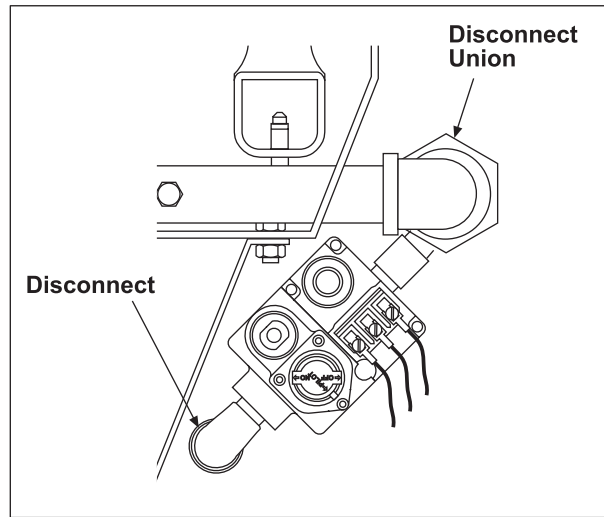

Figure 16
6. Disconnect combination valve union and pressure fitting (Figure 16).